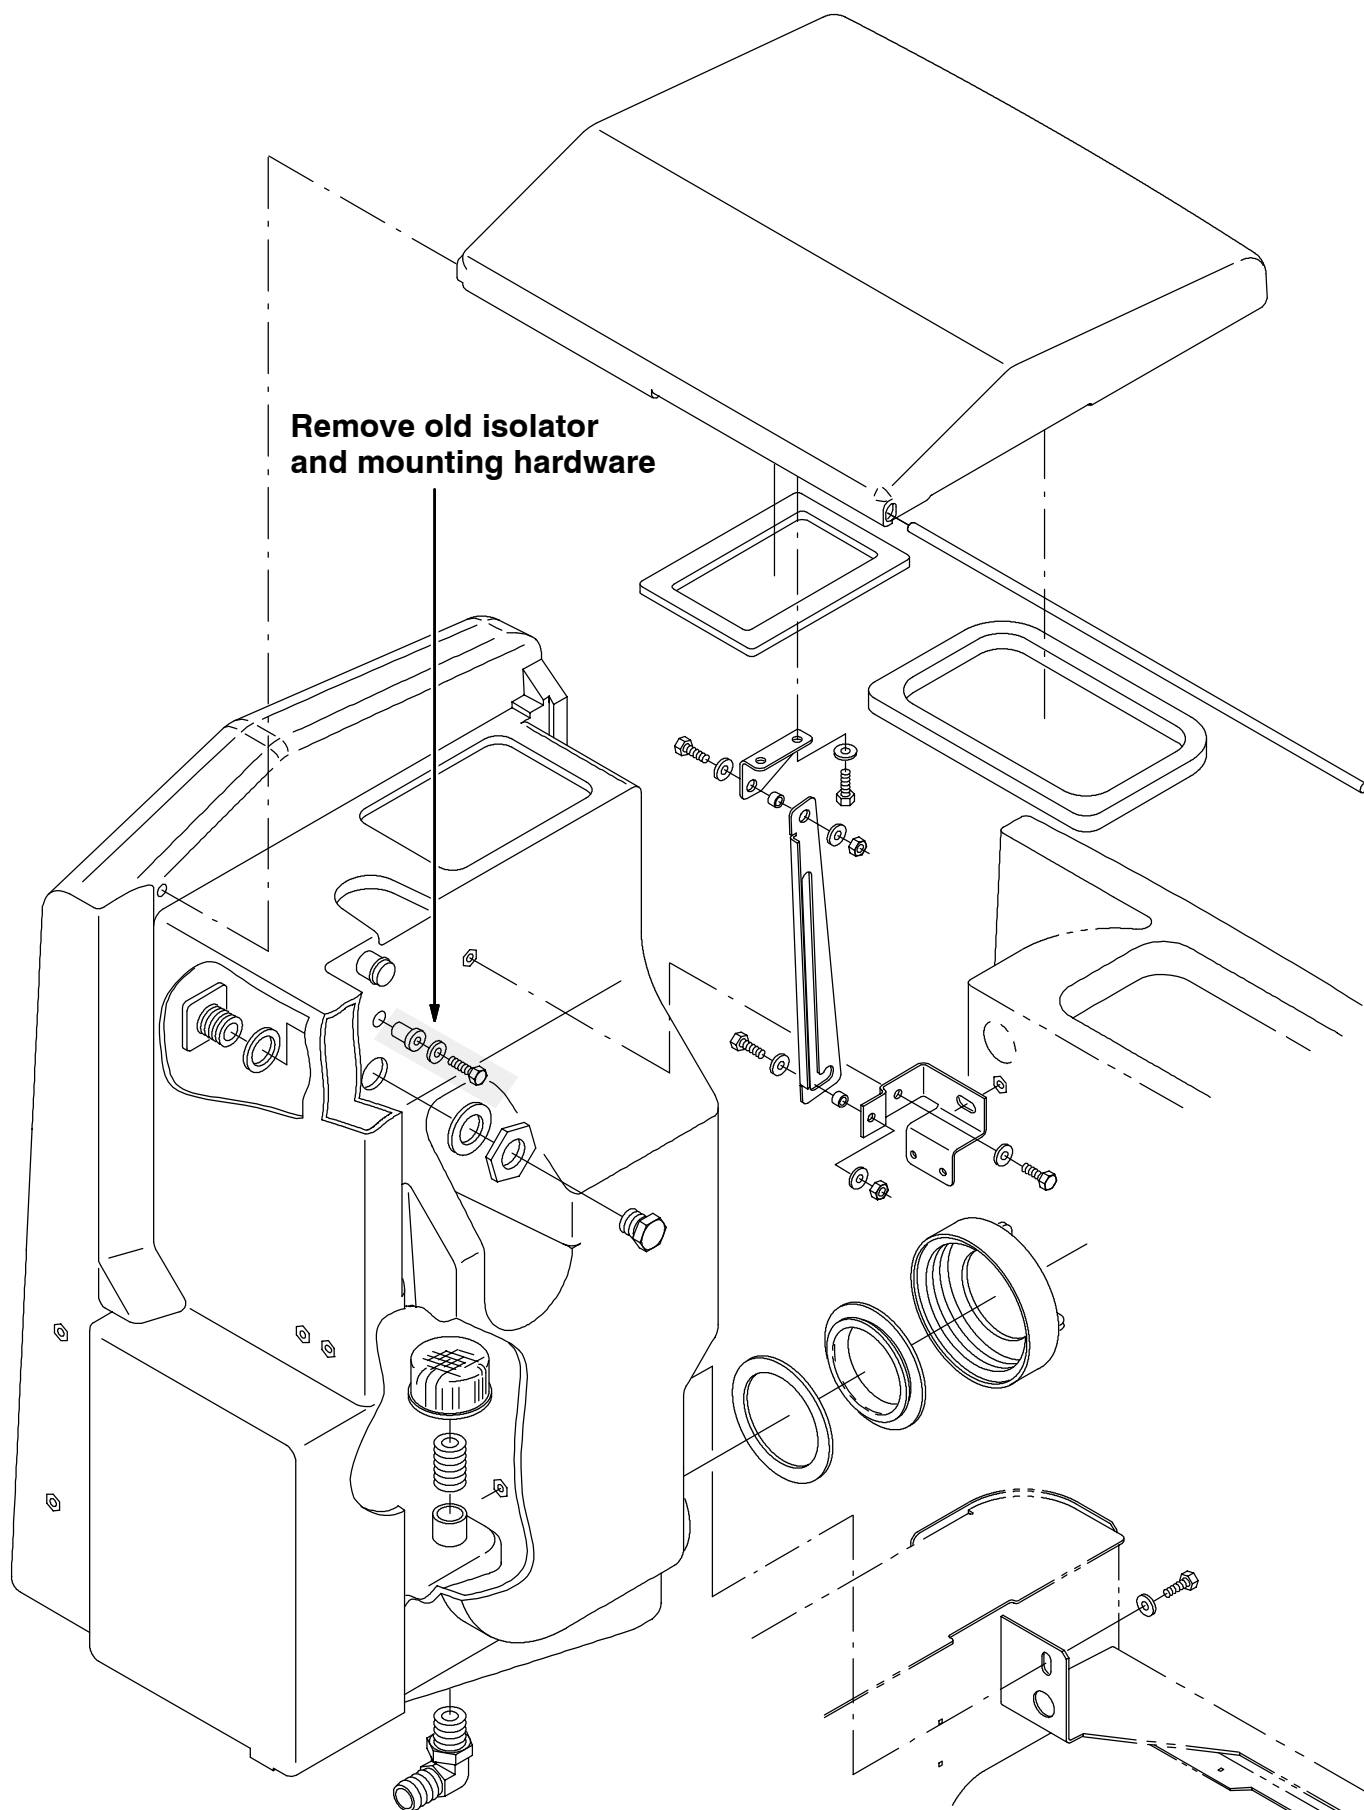

FIG. 1 - SOLUTION TANK ISOLATOR NUT LOCATION
(Refer to FIG. 1 and 2)
1. Locate the isolator nuts, screws and washers that need to be replaced. (Refer to FIG. 1 and 2)